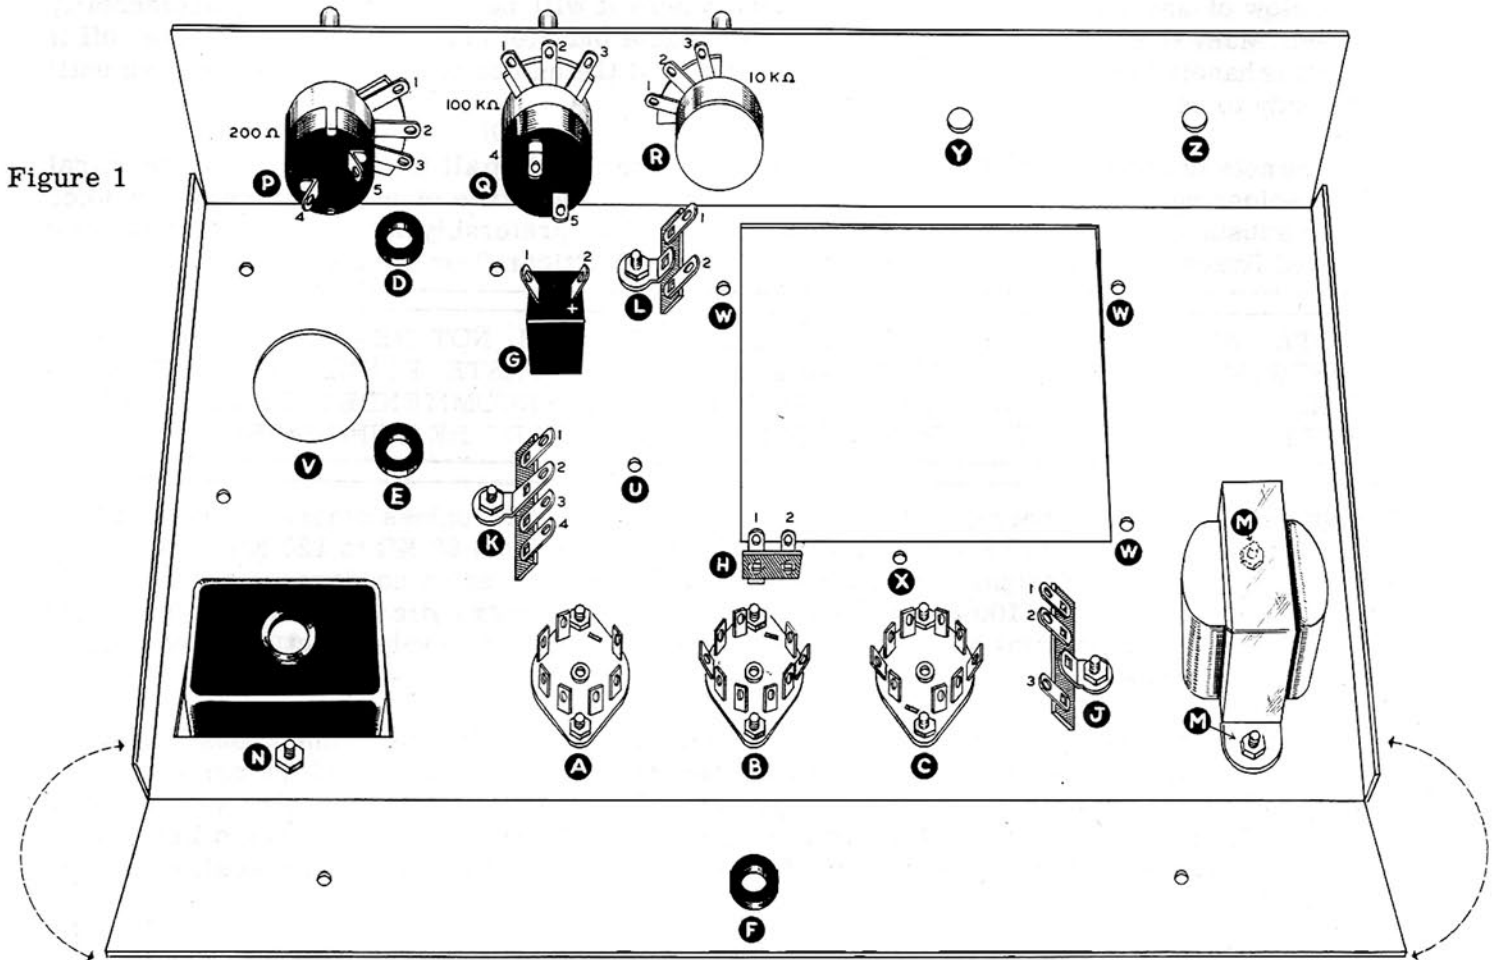
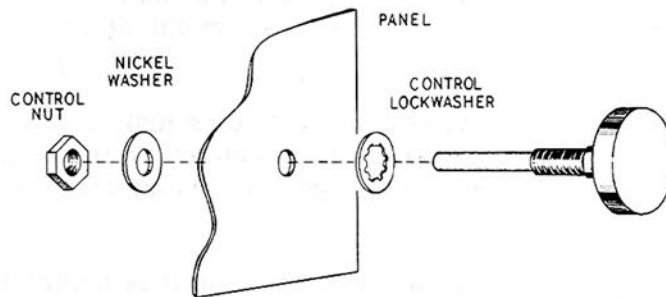

Figure 1
Figure 3
- (✓) 1. Place the chassis upside down on the bench. Note that one apron of the chassis has five identical holes symmetrically located in it. Place this side away from you. The chassis will then be oriented correctly with the bottom chassis diagram, Figure 1.
- (✓) 2. Refer to Figure 2 and note that the contacts on the tube sockets are numbered consecutively in clockwise sequence when viewed from the bottom of the socket. Mount a 7-pin socket at hole A, locating the blank space between pins 1 and 7 as shown in Figure 1. Use 3-48 hardware. No lockwashers are used with 3-48 hardware only.
- () 9. Mount a 2-lug terminal strip (1 lug grounded) at hole H, using 6-32 hardware. Orient as shown in Figure 1. Mark lug numbers on chassis to aid wiring.
- (✓) 15. Temporarily mount a 200 Ω potentiometer with switch at location P as shown in Figure 1. Use a lockwasher between the control and the chassis apron. See Figure 3.